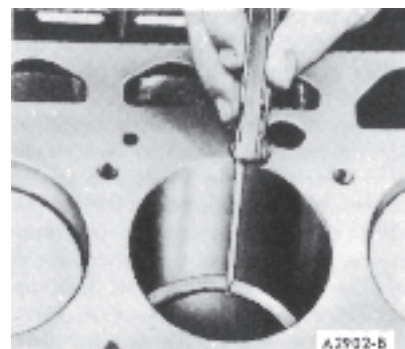

Fig. 33 Checking Piston Ring Gap
5. Measure the gap between the ends of the ring with a feeler gauge (Fig. 33). If the ring gap is less or greater than the specified limits, try another ring set.